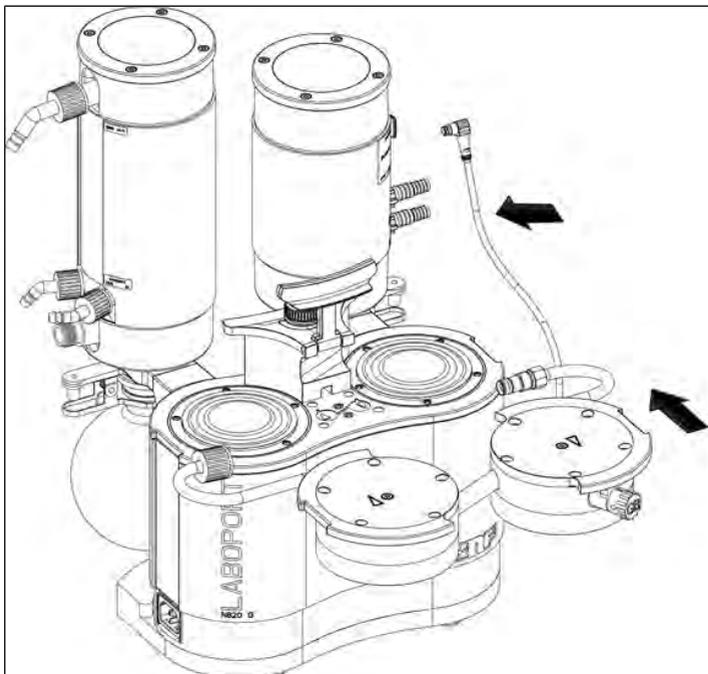

Fig.29: Mounting the pump head
1. Move the diaphragms (7) to the center position.
2. Press down on the edge of both diaphragms (7) all the way around.
3. Place the head plate (3) on the intermediate plate (6) in line with the locating pin (5).
4. Place the pressure plate (2) on the head plate (3) according to the pencil line.
5. Tighten the internal head screw (1) in the center of the pressure plate (tightening torque: 1 Nm).
7. Place the two pump heads (consisting of head plate (3), intermediate plate (6) with valve plates/seals (4) and pressure plate (2)) together with the connection tube on the pump housing according to the pencil line (see Fig. 29).
- i** Make sure that the hose connection (11) is inserted straight into the separator connection.
8. Screw in the union screw of the hose connection (11) 1-2 turns by hand.